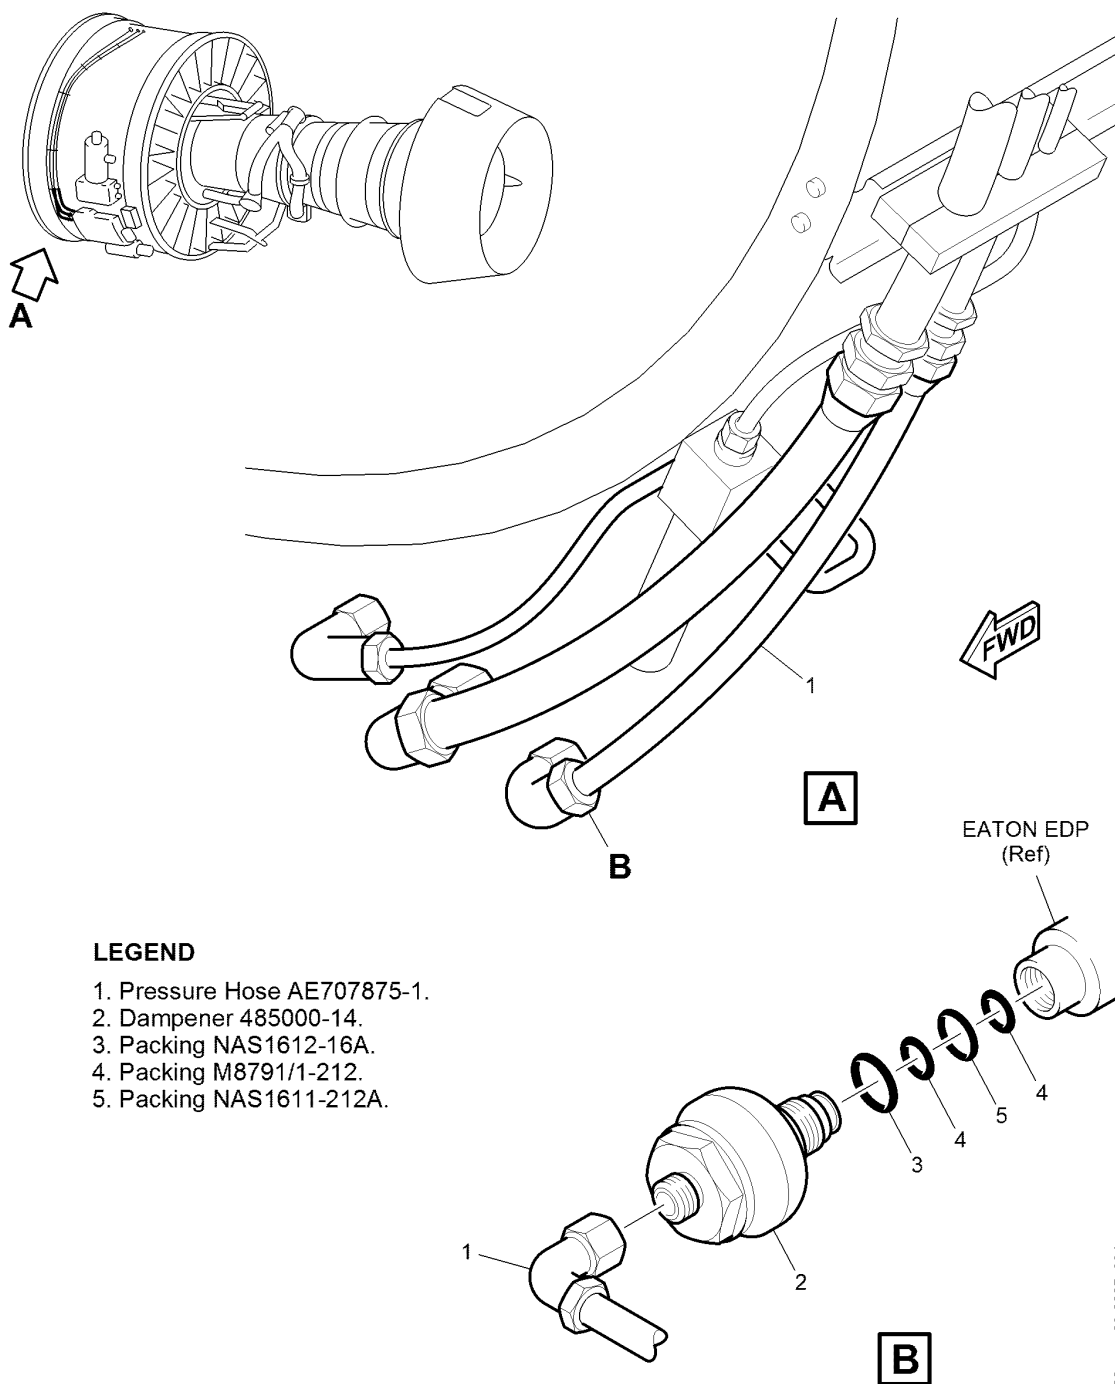

Figure 2
- A. Put a suitable container below the pressure hose (1) / union (2) connection to the Eaton EDP.
- B. Hold the union (2) with an applicable wrench and disconnect the pressure hose (1) from the union.
- D. With an applicable wrench, remove the union (2) and packing (3), (4) and (5) from the EDP (ref).
- E. Discard the packing (3), (4) and (5).
- F. Put a suitable protective cover on the end of the pressure hose (1) and the EDP (ref).
2. Installation of the new dampener (2) on the Eaton EDP (ref). Refer to Figure 2.
- A. Remove the covers from the dampener (2), the pressure hose (1) and the EDP (ref).
- B. Lightly lubricate the threads and abutment faces of the dampener (2) and pressure hose (1) with the hydraulic fluid used in the aircraft hydraulic system.
- C. Lubricate the packing (3), (4) (2-off) and (5) (ref SPM Task 70-44-01-400-501) and install the new dampener (2) and packings (3), (4) (2-off) and (5) to the Eaton EDP.
- D. Torque the dampener (2) to 975 – 1060 lbf in. (110,2 – 119,8 Nm).